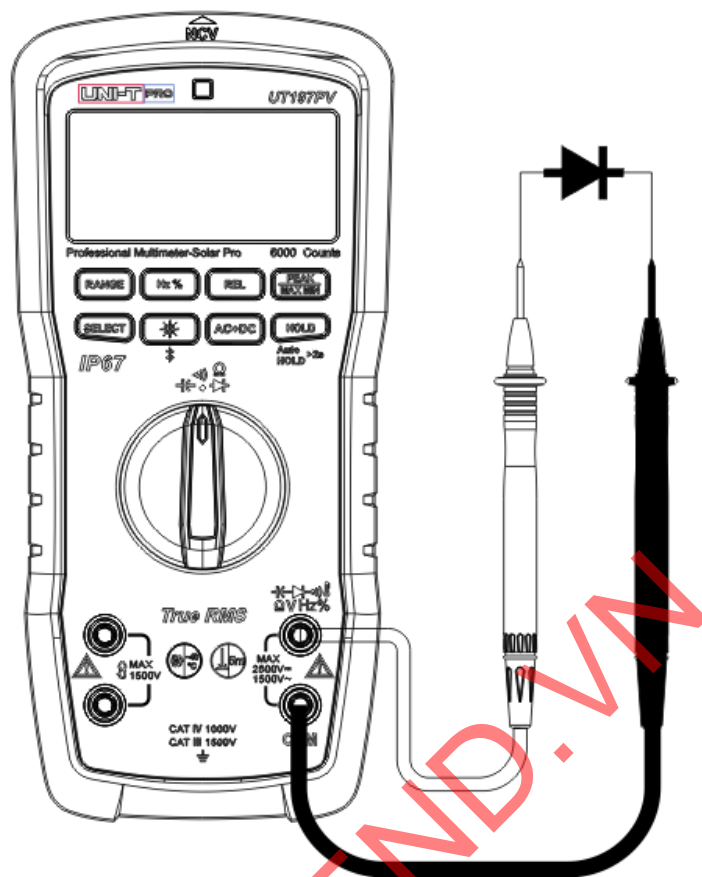

Figure 11
8. Diode measurement (Figure 11)